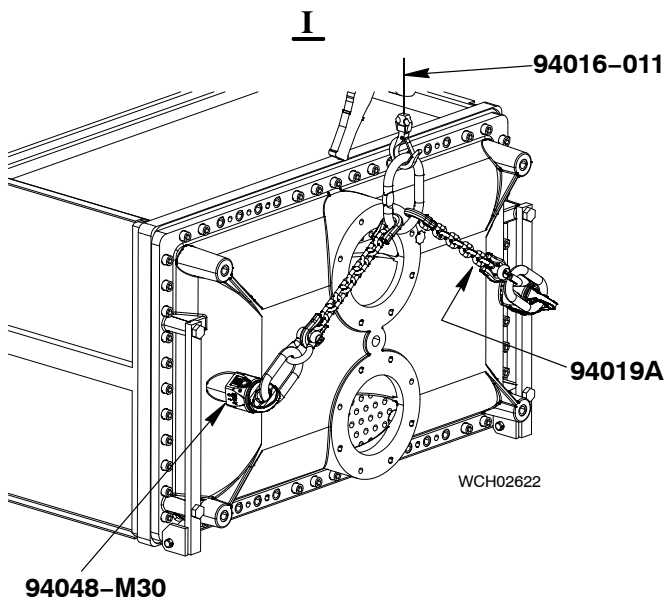

Fig. 5
- 23) Operate carefully the manual ratchet (94016 006, Fig. 5) until the rear of the SAC is on the two supports (94663A, 94663B).